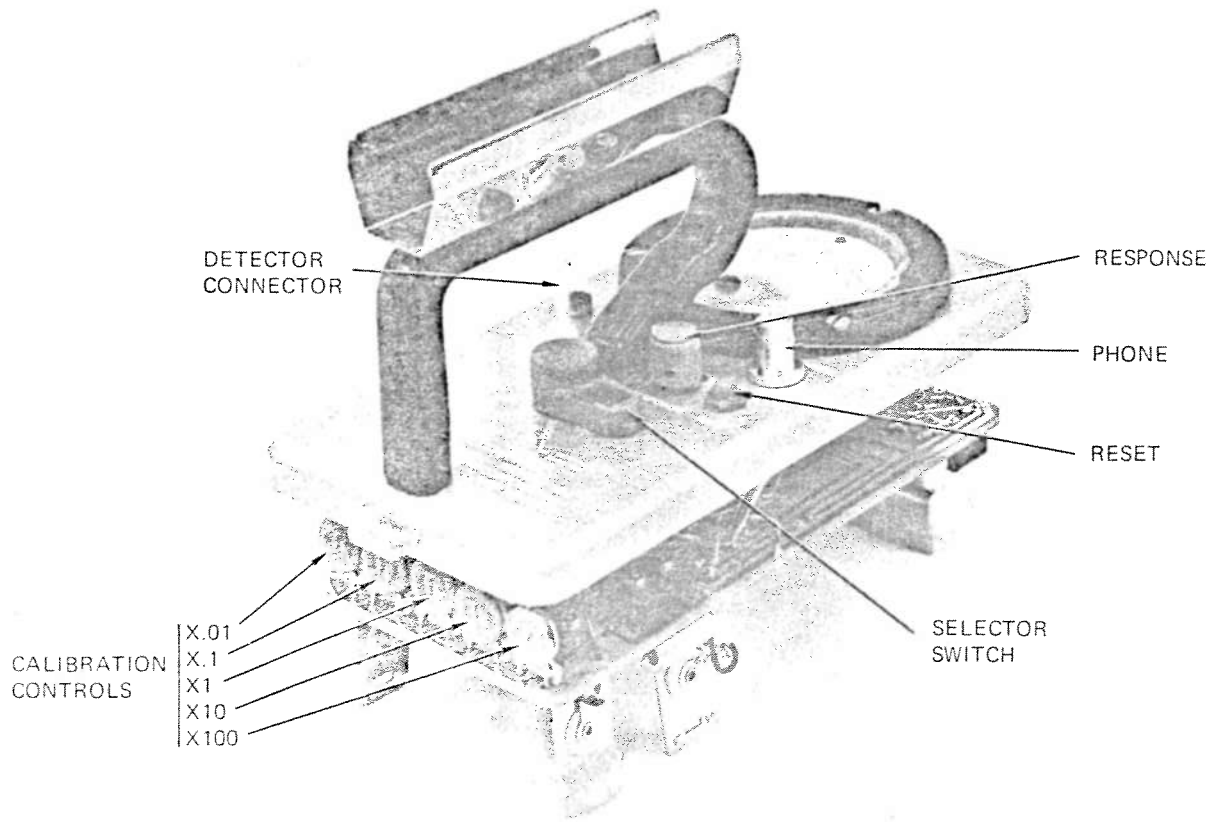

Figure 2-1. Location of Controls
1. EXTERNAL (See figure 2-1)
2. INTERNAL (See figure 2-1)